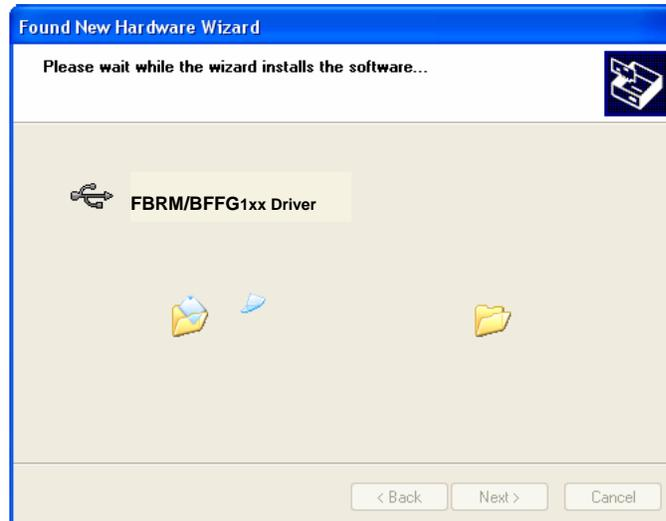

Figure 21: Windows XP Installing Driver Box
8.	Click the NEXT button to start installing the driver and the driver-install screen will appear as XP copies the Device driver. See Figure 21.